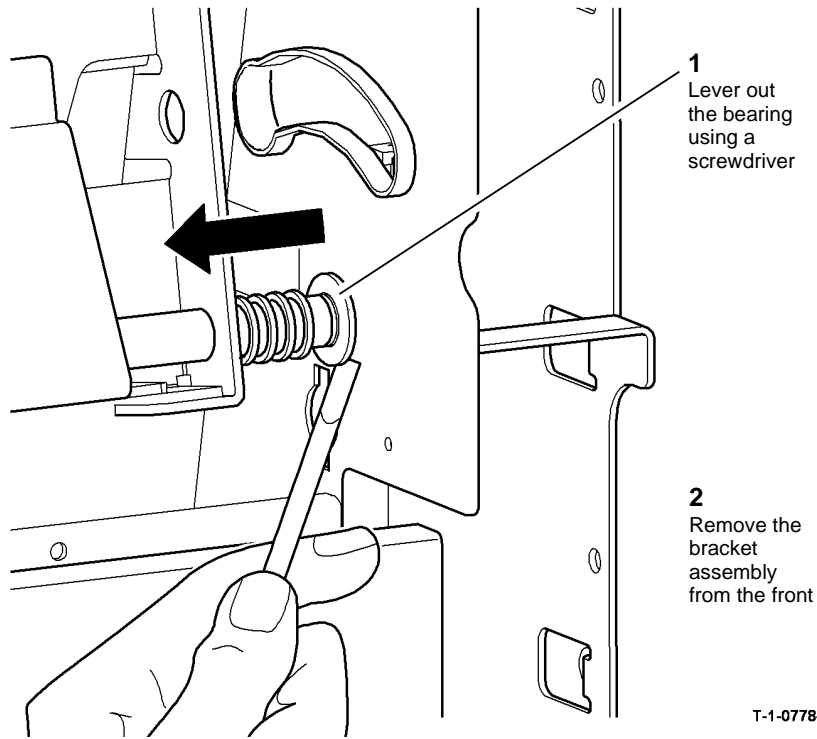

Figure 5 Assembly removal
13. Figure 5, remove the BM stapler bracket assembly.